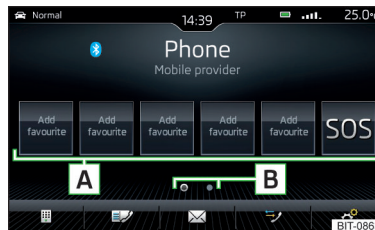

Fig. 200
- ▶ In the main menu *Telephone*, **tap on** the desired function surface  » Fig. 200.
- ▶ To **change Storage Group** tap on the functional surface  » Fig. 200.
- ▶ To **choose** tap on the assigned function area  » Fig. 200.
- ▶ In the main *Telephone* menu, **press and hold** the desired function surface  » Fig. 200.